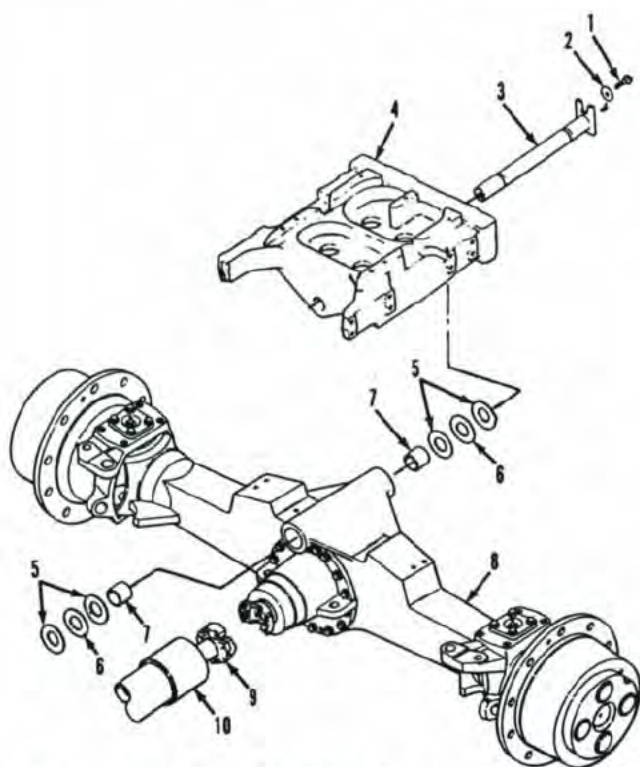

Fig. 4—View of front drive axle and front support removed from tractor.
6. REMOVE AND REINSTALL. To remove front drive axle assembly (8—Fig. 4), place shift control
7. REMOVE AND REINSTALL. To remove front support (4—Fig. 4), first remove hood, grille and panels. Disconnect air intake hose. Drain radiator and disconnect front wiring harness connector. Disconnect upper and lower radiator hoses, coolant bleed hose and coolant recovery hose. Disconnect either starting line from intake manifold. Remove hoses from clip on radiator, then remove air conditioning condenser and lay back on top of engine. Identify and disconnect oil cooler lines and remove oil cooler. Attach a hoist with lift straps to radiator support. Unbolt radiator support from front support and move radiator forward to clear fan as the assembly is moved.